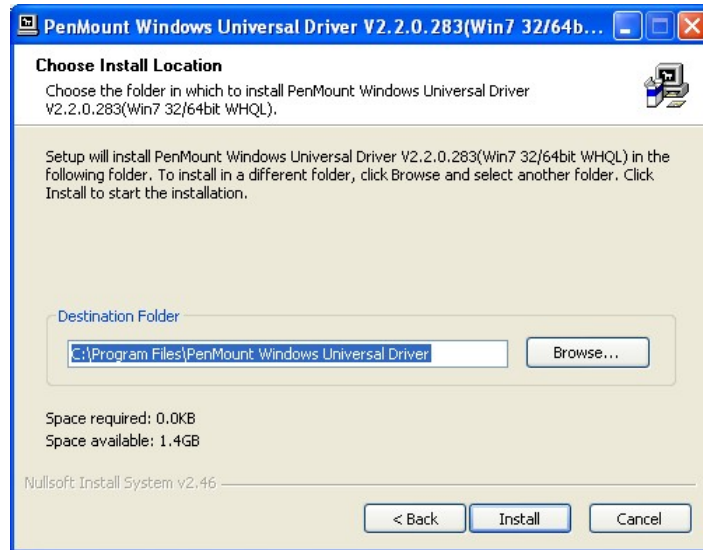

Figure 7-4: Initiate Install
Step 8: The installation destination screen appears. See **Figure 7-4**. Click **Install**.